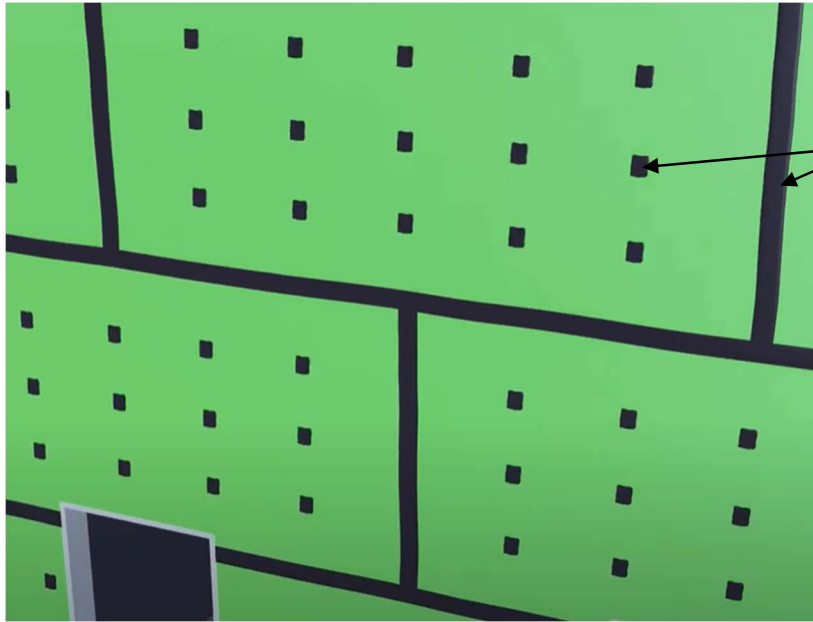

Fig. 21
B. Tremco Dymonic 100 Option – **Figure 21.**